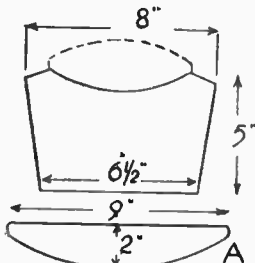

Fig. 1—End shapes
The ends are shown at Fig. 1. These can be easily set out direct to the wood, without drawing a pattern beforehand. Cut a rectangle 5 in. by 8 in. for the front end, trim the ends to slope inwards, cut off the top corners, and saw the remainder of the top edge to a concave curve. The rear end is cut $1\frac{1}{2}$ in. wider ($6\frac{1}{2}$ in.) and is of similar shape to the other with the exception that the top edge is sawn to a convex curve, as shown by the dotted lines.
shown at (A) in Fig. 1. The bottom curve should be a smooth one, and can be struck with an improvised compass if a better tool is not available. The usual makeshift of a nail and length of string, with a pencil tied to the string, will serve all right for a job of this kind.